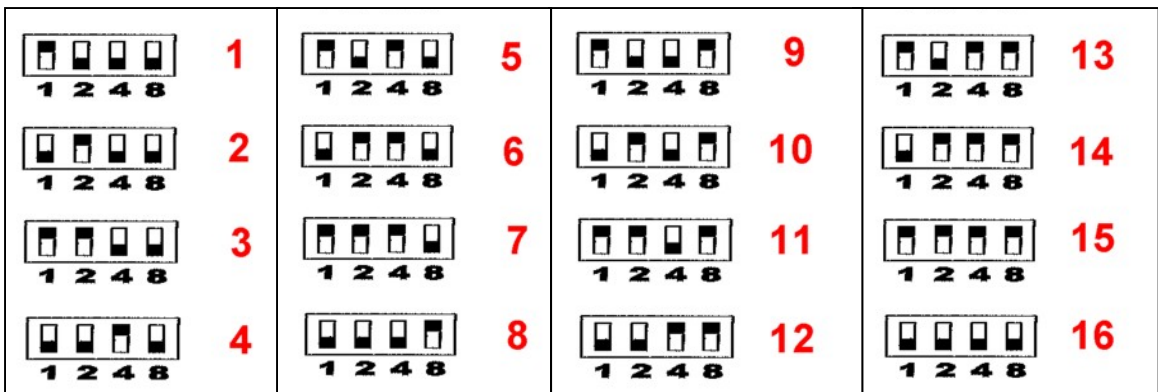

Fig. 15: Compressor Wheel Blade Setting Diagram
2. Set the gauge for your particular compressor wheel. There are 4 dip-switches on the back of the gauge. Set the switches to the correct number of compressor blades based on figure 15 below. (If you desire to use the sensor to pick up a single magnet or machined flat on a shaft, choose 1 blade, or 2 blades if there are 2 magnets or flats, etc.). See figure 14 for example setting for 12 blades. Disregard the "8-6-4" above the dip switches.